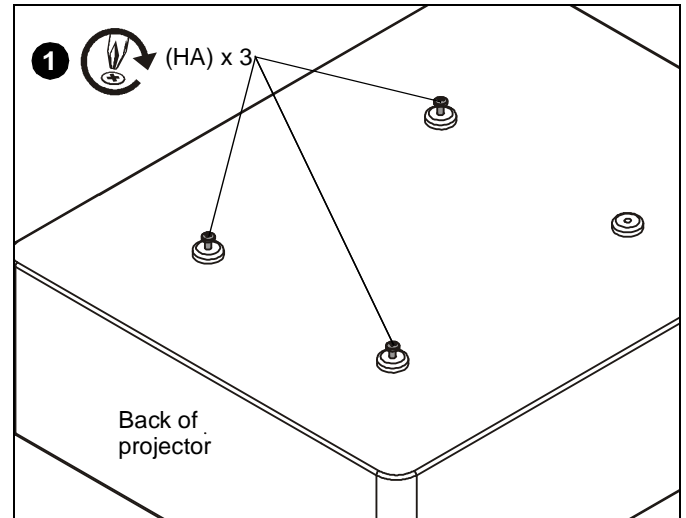

Figure 13
1. Insert and slightly tighten three M4 x 10mm Phillips pan head screws (HA) into the projector threaded inserts. (See Figure 13)